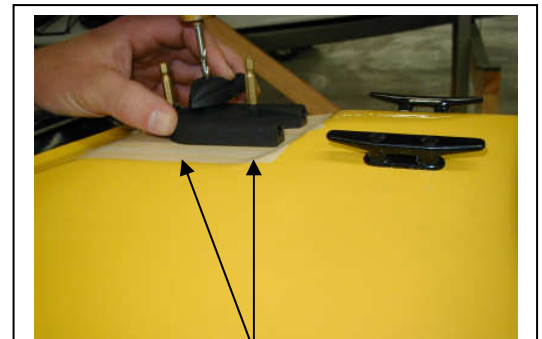

Fig. 5 – Using drill bits or nails placed in holes to keep Trim Tab assembly in position while drilling pilot hole.
f. Set the assembled Trim Tab back on the kayak deck, and align the small outer mounting holes with the holes you just drilled in the deck of the kayak. Secure the Trim Tab assembly in place by dropping a couple of small drill bits or nails through the holes. (Fig. 5)